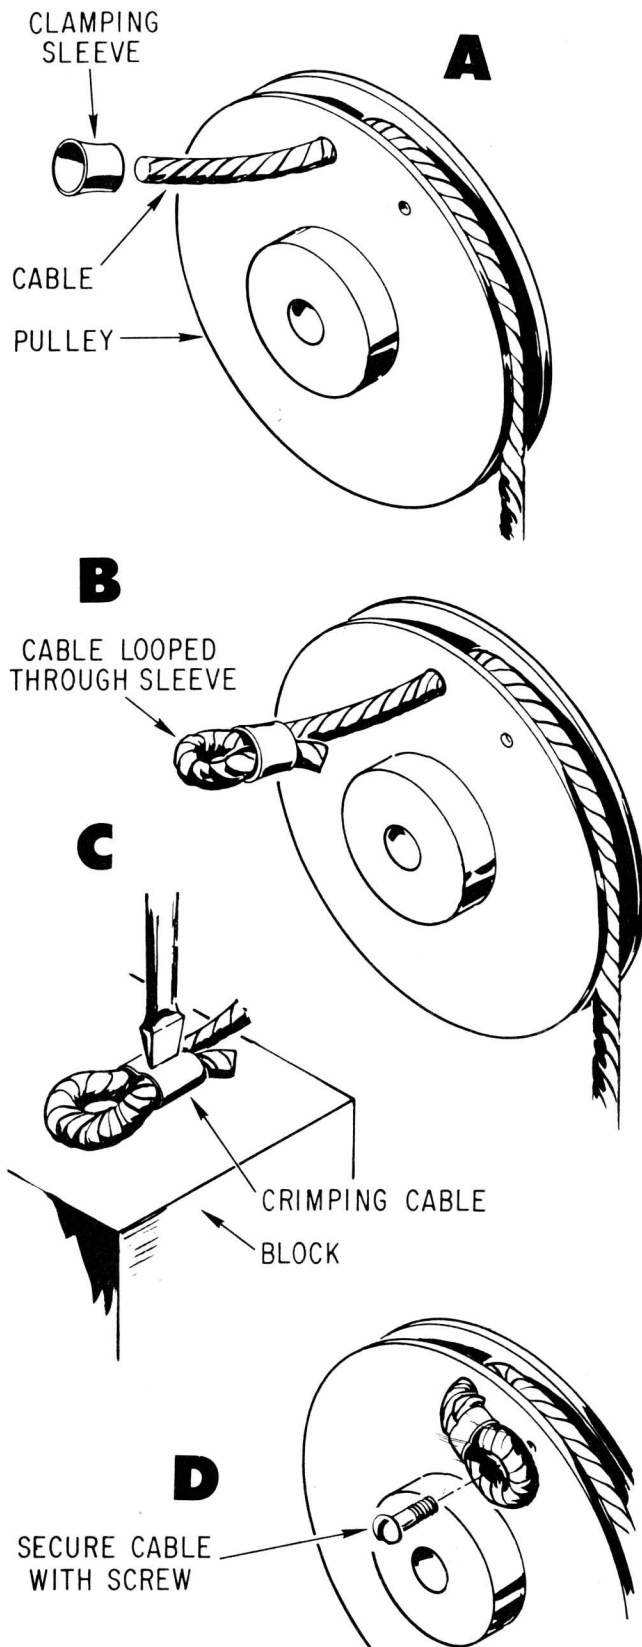

Figure M14-2. Installation of Eyelets on Plastic Coated Cable
2. Insert free end of 11 in. cable through hole A of DRIVE PULLEY and form loop in end of cable as directed in Figure M14-2.
The replacement cables are supplied from the factory with a loop formed in one end. The other end is not looped since it is necessary to thread this end through a hole in the pulley before the loop is formed. (See A of Figure M14-2.)
Crimp center of eyelet as shown in C of Figure M14-2 with a screwdriver and a hammer.
Cable is now ready to be attached to the pulley using the small screw previously removed. (Refer to D of Figure M14-2.)